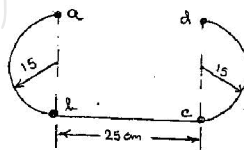

Fig.3
13. (a) Find the shear flow and shear center for the open section shown in the fig.3. The area of strings are, $a = b = 6 \text{ cm}^2$, $c = d = 2.5 \text{ cm}^2$. A vertical load of 10 kN acts through the shear center.